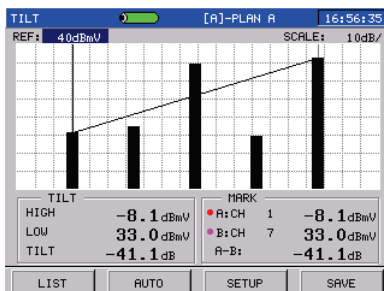

Figure 3-10-5
In tilt test interface, the channels will display as histogram, and test result will be displayed at the bottom of screen, please refer to Figure 3-10-5.
There is only one page soft key, as Figure 3-10-5.
**TILT(F1)**: Press TILT soft key to enter tilt mode, as Figure 3-10-5.